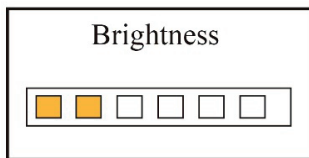

Figure 4.10A Brightness setup
- **Brightness:** To set the brightness of backlight, 6 levels for optional, the factory default is level 3, as shown in figure 4.10A.